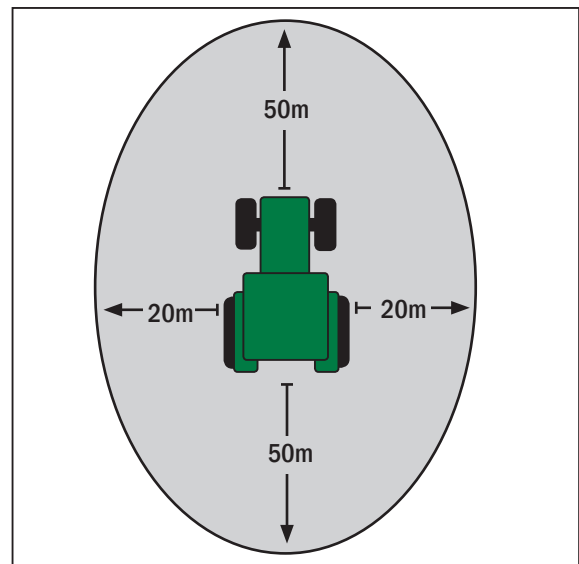

Fig. 2: Danger zone
If installation or servicing is required at the running vehicle or PSR Guidance System, only authorised personnel are allowed to access the danger zone (refer to Fig. 2) after clear confirmation by the operator. These personnel have to be informed precisely on any potential dangers before entering the danger area. All tasks have to be precisely agreed on in advance by the operator and these personnel.
- As soon as the steering system is switched on, nobody may remain in the danger zone (see Fig. 2). When using an implement, observe the safety clearances according to the instructions of the implement. The operator is obliged to stop the vehicle immediately as soon as persons enter the danger zone. Persons in the danger zone are exposed to the risk of serious or even fatal injury. Persons might be rolled over by the vehicle if there is a vehicle malfunction. The operator may only start the steering system again if there are no persons in the danger zone.